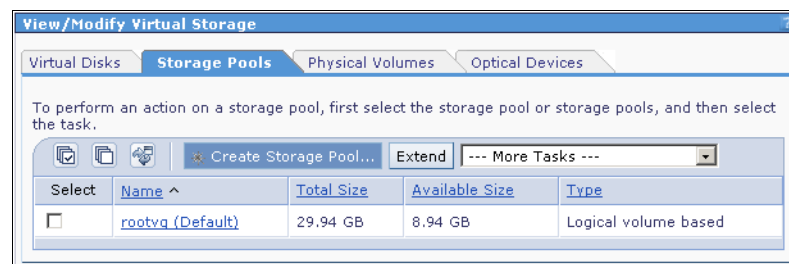

Figure 6-1 Media library - create storage pool
1. Click **View/Modify Virtual Storage** in the left menu under Virtual Storage Management. Then click the **Storage Pools** register card. Create a new storage pool by clicking **Create Storage Pool**. See Figure 6-1.